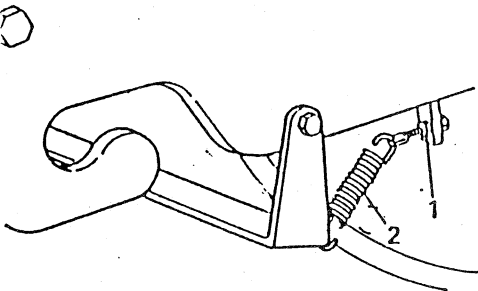

Fig.9 Drum scraper
- 1 Loosen adjust nut of Fig. 9 to adjust tension of spring 2.